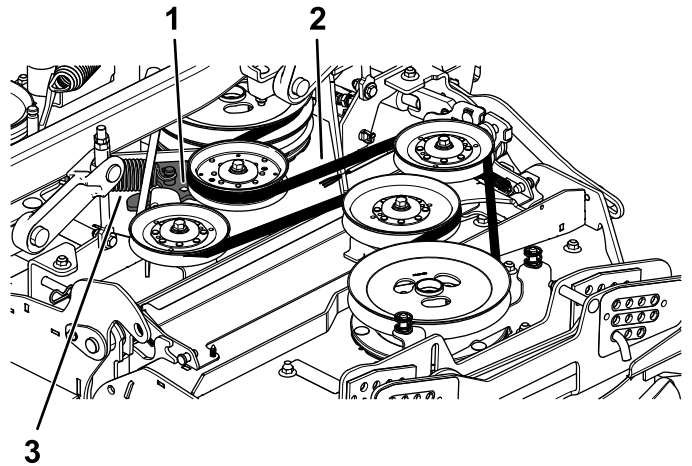

**Figure 59**
4. Remove the 2 lynch pins from the outer belt cover and remove the outer cover (Figure 59).
5. Rotate the inside belt cover upward (Figure 59).